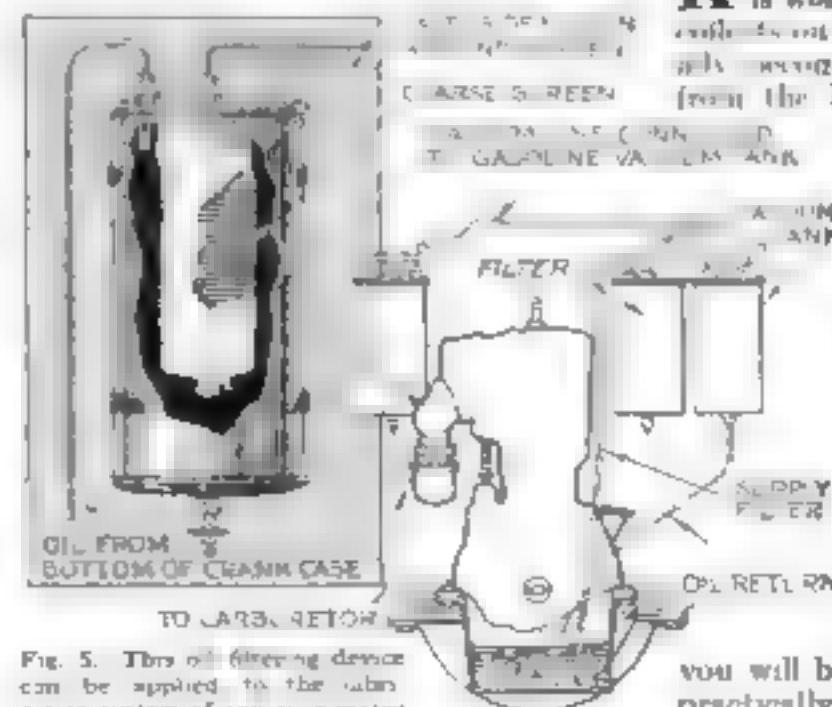

Fig. 5. This oil filtering device can be applied to the carburetor system of any auto motor.
E. E. LINDSAY, of Champaign, Ill., wins this month's \$10 prize with his suggestion of an oil filter (Fig. 5). Each month POPULAR SCIENCE MONTHLY awards \$10, in addition to regular space rates, for the best idea sent in for motorists. Other contributions published are paid for at the usual rates.
FIG. 5 shows a homemade oil filtering system that can be applied to any automobile to make it modern and up-to-date.